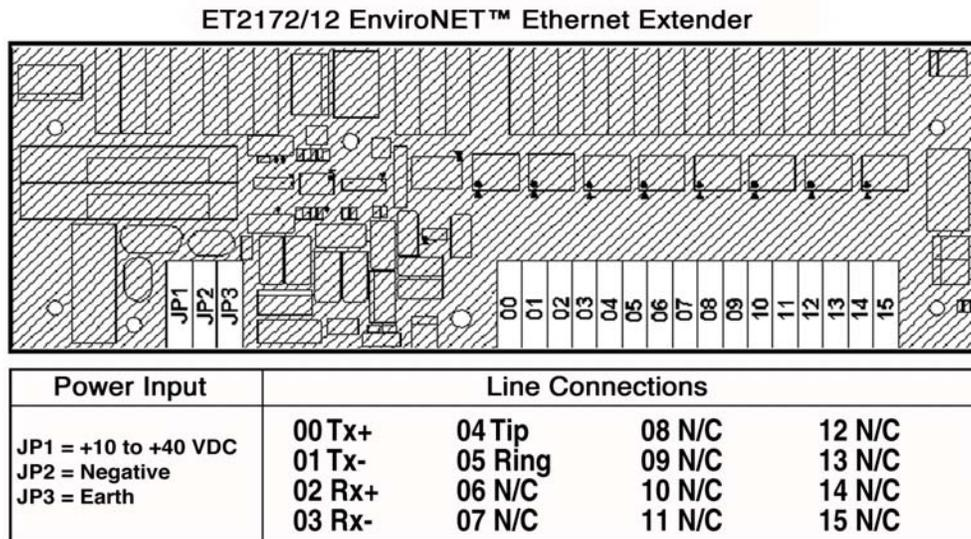

Figure 8. Terminal block diagram (Displayed on the inside of the EnviroNET door)
2. Connect the appropriate wires to the appropriate slots in the terminal block. There should be one wire per gland. Follow the wiring diagram that is on the inside of the EnviroNET door (see figure 8).